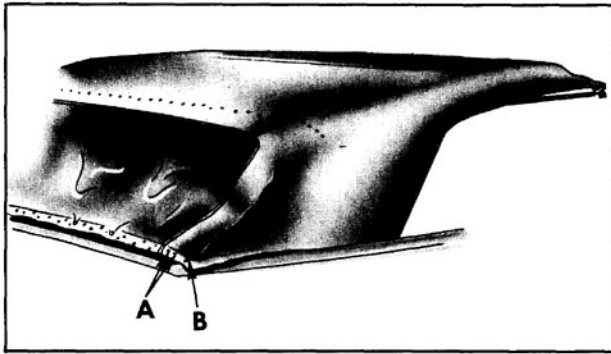

Fig. 16-450 Tacking Top Material
38. Using previously marked lines (end of trim stick) as locating reference, tack top material to rear and rear quarter trim sticks. "A" in Fig. 16-450 shows top material installed to rear trim stick at inboard edge.
18. Using previously marked lines (ends of trim stick) as locating reference, tack top material to rear and rear quarter trim sticks. "A" in Fig. 16-450 shows top material installed to rear trim stick at inboard edge.